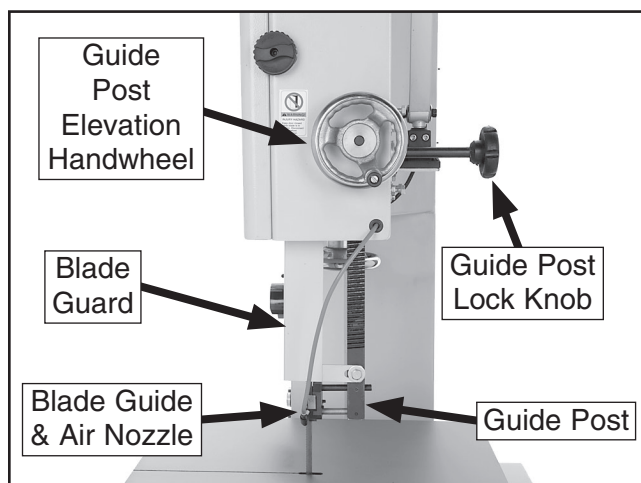

Figure 25. Model G8146Z guide post assembly.
3. **Model G8146Z (Figure 25):**